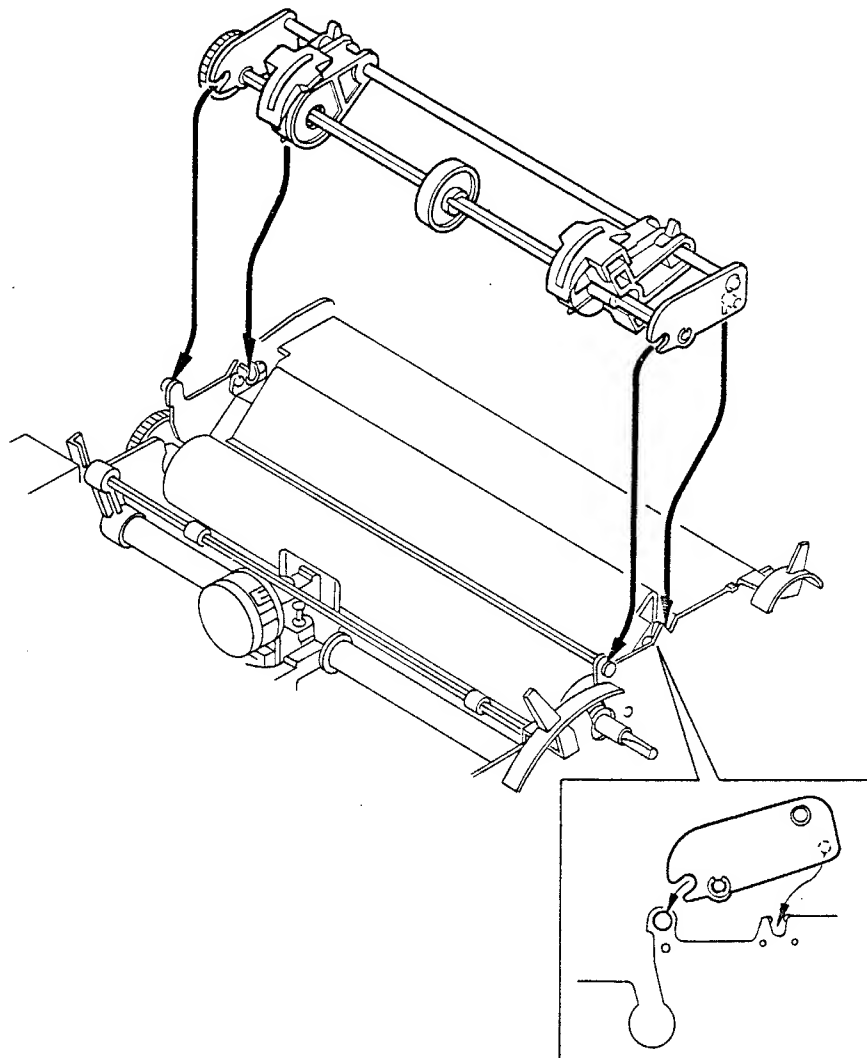

Figure 4. Installing the Tractor
3. Place the front cutouts in the Tractor unit onto the outside studs (see Figure 4), then press on the rear of the Tractor until the back posts snap into place.